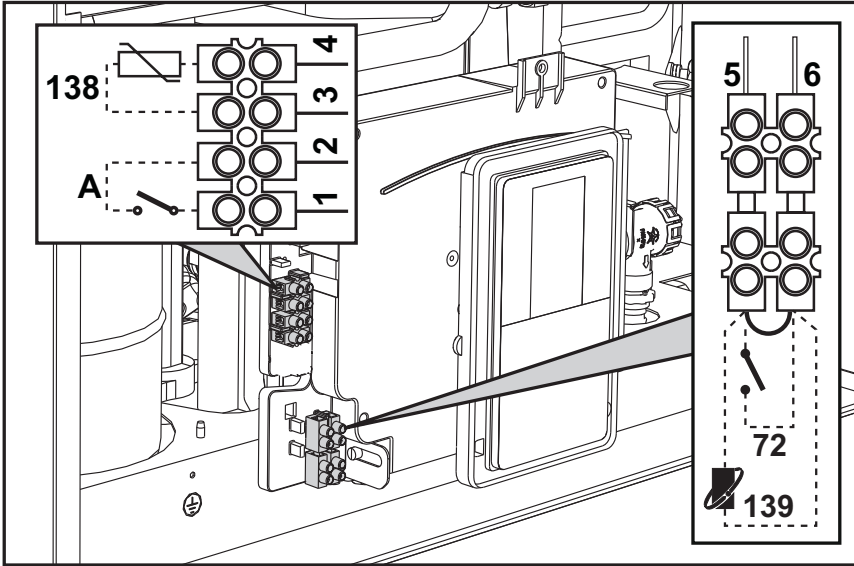

fig. 28
After removing the front panel (*** 'Opening the front panel' on page 310 ***) it is possible to access the terminal blocks (M) and the fuse (F) following the directions given below. **The terminals indicated in fig. 28 must be with voltage-free contacts (not 230V).** The arrangement of the terminals for the various connections is also given in the wiring diagram in fig. 51.
ON OFF switch configuration (A fig. 28)